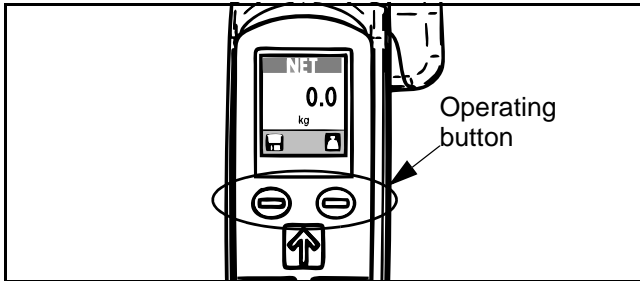

Fig. 68
- 1) At start-up, press both operating buttons for the scale at the same time (see Fig. 68).